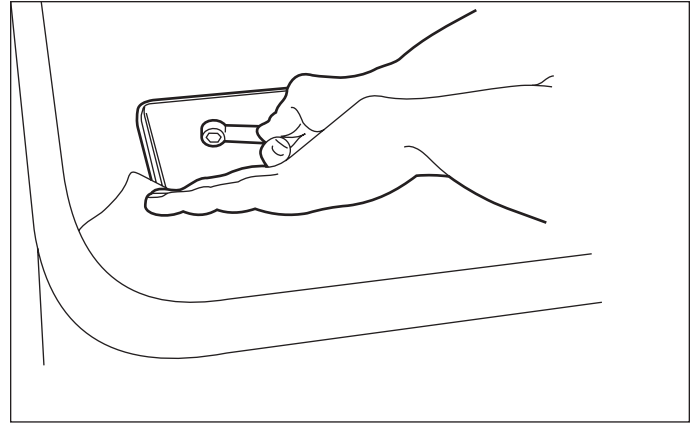

Figure 20. Installing Hardware Inside the Hopper
3. See Figure 20. From the inside of the hopper install one 5/16-18 flange nut on each 5/16 weld stud. Finger tighten only at this time.